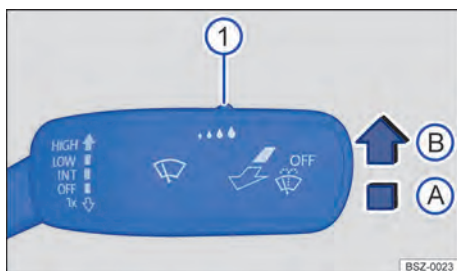

Fig. 94 On the right of the steering column: wiper lever.
1. Push the lever to the desired position → Fig. 94.
The sensitivity of the rain and light sensor can be adjusted manually using the switch in the wiper lever → Fig. 94 ① → ⚠.